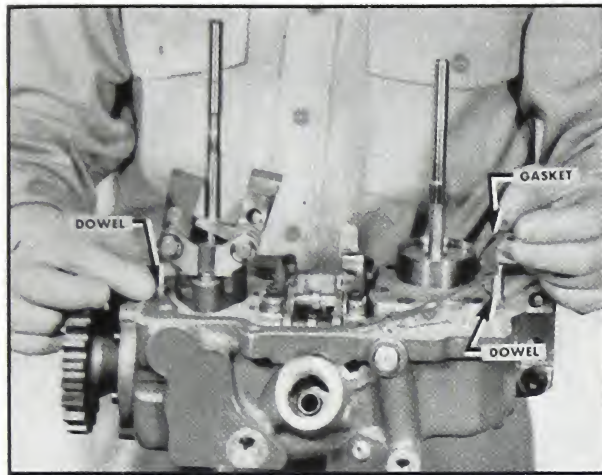

Fig. 5-334. Replace upper housing gasket
2. Set a new gasket in place on the main housing. Fig. 5-334.